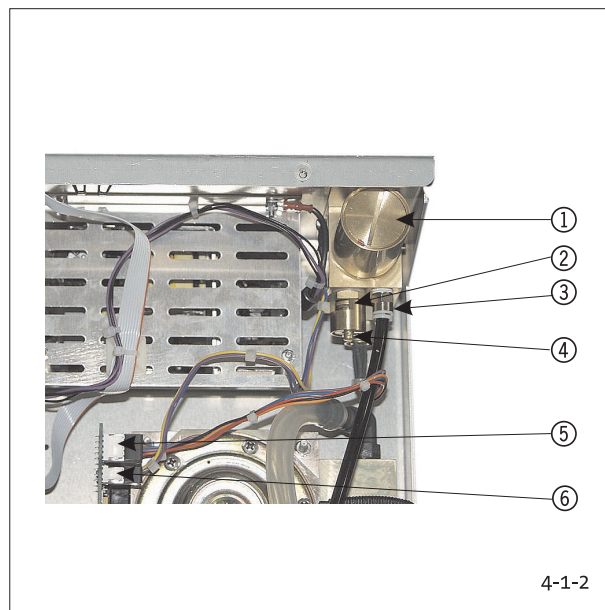

Fig. 4-1-2: High Pressure Unit Connections
3. Remove gas tube from HPU as well as the electric jumpers (see Fig. 4-1-2).